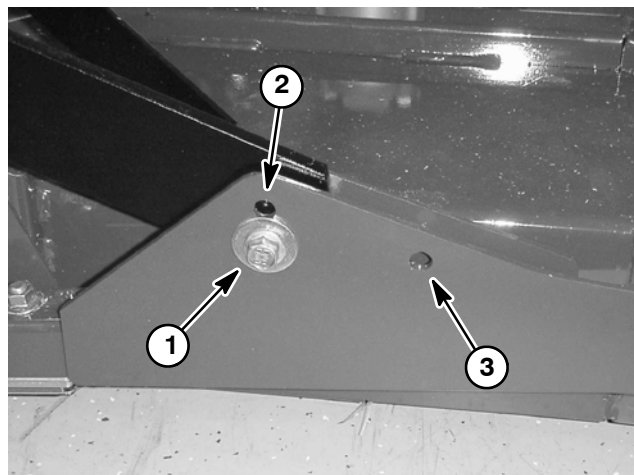

Figure 30
1. For heights of cut in the 3/4 to 3 inch (1.9 to 7.6 cm) range, the front cutting units should be mounted in the lower front mounting holes (Fig. 30) of the carrier frame.
2. For heights of cut in the 2 1/2 to 4 inch (6.4 to 10.2 cm) range, the front cutting units should be mounted in the upper front mounting holes (Fig. 30) of the carrier frame.
1. For all heights-of-cut, the rear cutting deck should be mounted in the rear mounting holes (Fig. 30) of the carrier frame.